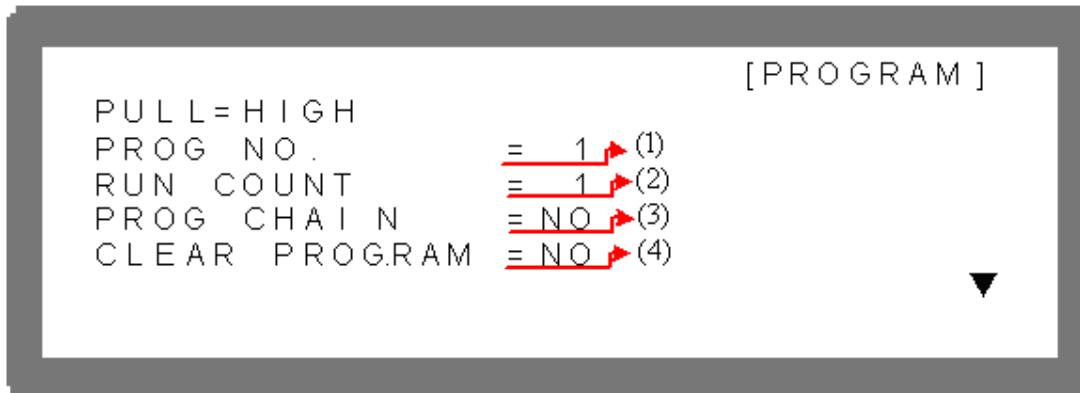
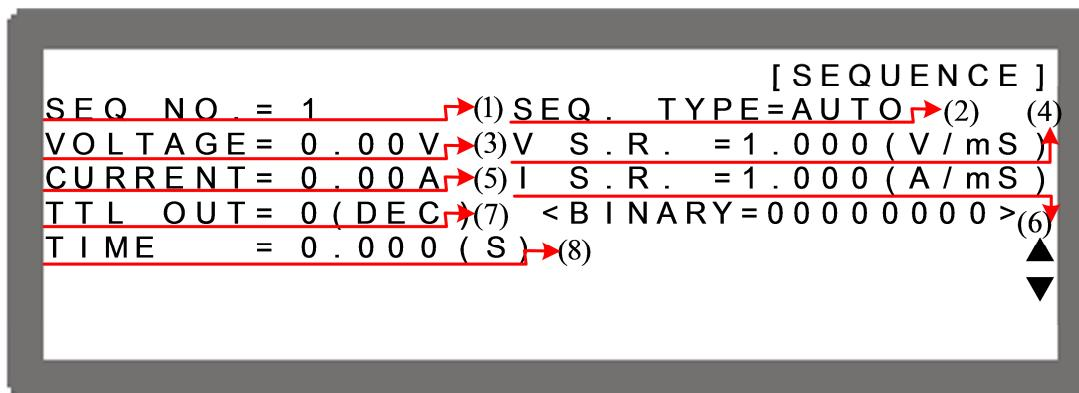

Figure 4-3
Figure 4-8
2. Use the “”, “” keys to move the cursor to the column to be set as shown in Figure 4-3 (1).
1. Use the “”, “” keys to move the cursor to the column to be set as shown in Figure 4-3 (2).
1. Use the “”, “” keys to move the cursor to the column to be set as shown in Figure 4-3 (3).
1. Use the “”, “” keys to move the cursor to the column to be set as shown in Figure 4-3 (4).
- a. In the PROGRAM page (Figure 4-3), if the PROGRAM has no SEQUENCE when the cursor is at (4), press “” to add a new SEQUENCE. The page will skip to Figure 4-8.
- b. When the cursor is at (8) in Figure 4-8, press “” to add a new SEQUENCE NO.
3. Use the “, “, “” keys to move the cursor to the column to be set as shown in Figure 4-8.
6. Press “” to return to the Program PAGE (Figure 4-3).
1. Use the “”, “” keys to move the cursor to the column to be set as shown in Figure 4-8 (1).
2. When the cursor is in Figure 4-8 (8), press “” to add a new SEQUENCE or use the numeric ( ) keys or the “Rotary” () knob to set the value and return to the previously set Sequence Number.
4. Press “” to return to the Program PAGE (Figure 4-3).
1. Use the “”, “” keys to move the cursor to the column to be set as shown in Figure 4-8 (2).
2. Use the numeric ( ) keys or the “Rotary” () knob to set the Sequence Type. There are four Sequence Types: (1) AUTO, (2) MANUAL, (3) TRIGGER, (4) SKIP.
1. Use the “, ” keys to move the cursor to the column to be set as shown in Figure 4-8 (3).